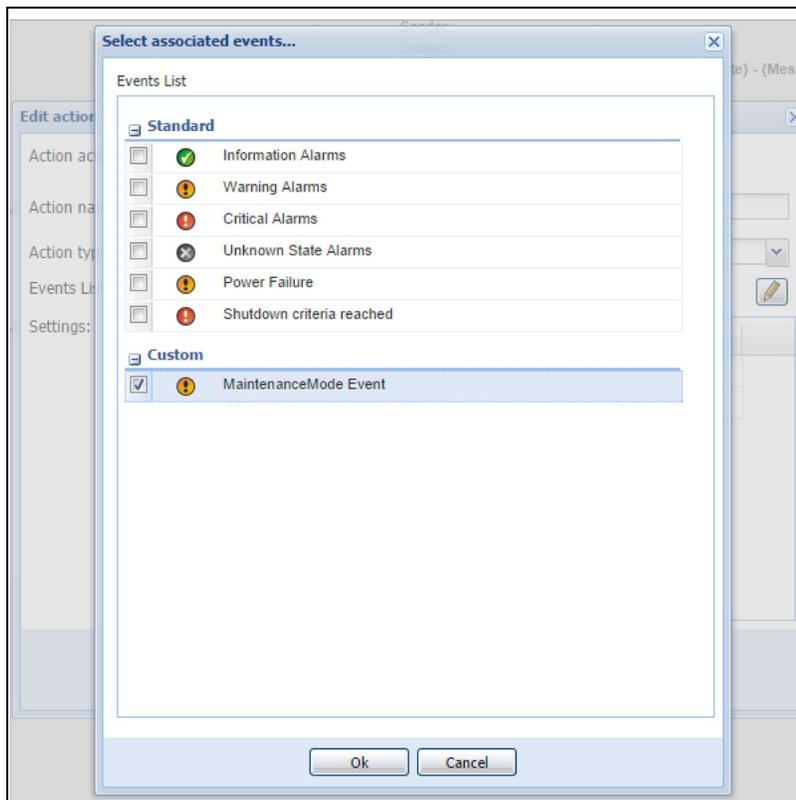

Figure 173. Events List for Select Associated Event
8. From the Select associated events pop-up, check the Custom box for MaintenanceMode Event. Click **Ok** (see Figure 173).